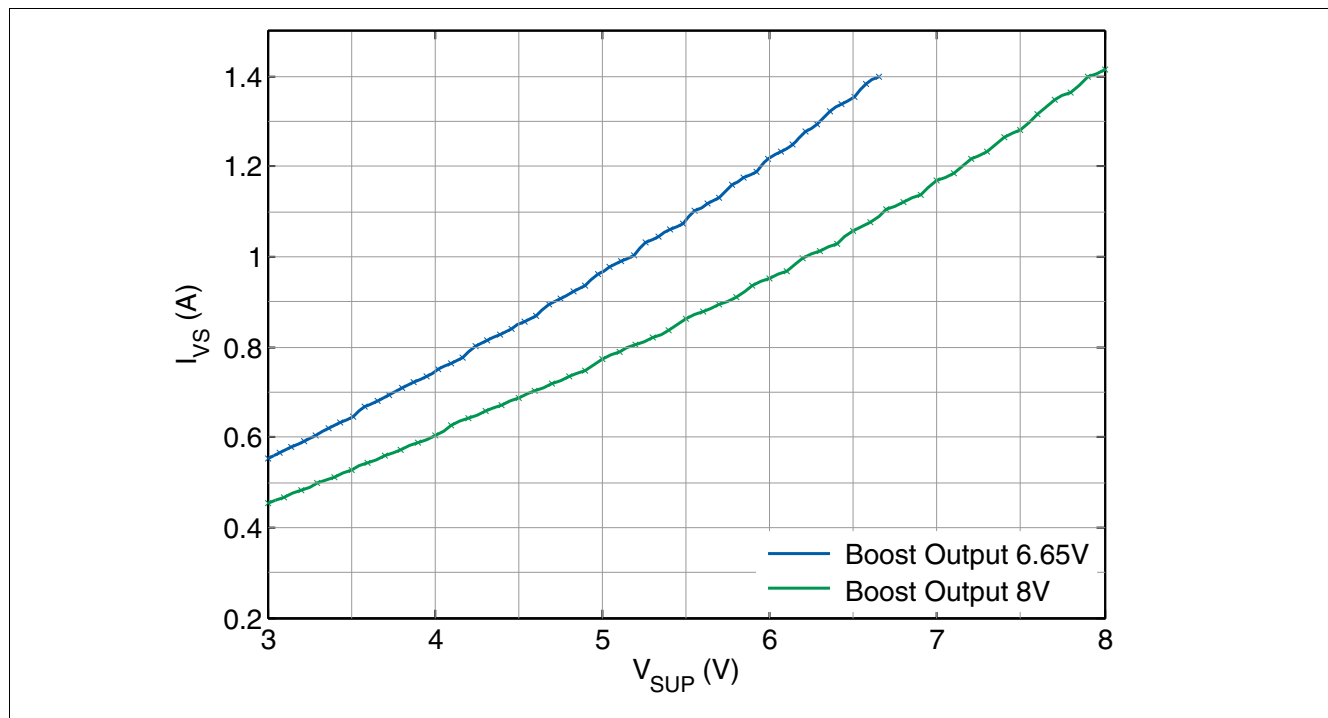

Figure 13 Maximum DCDC Boost current capability versus V_{SUP} (TLE9271..3QX version).
2) Values verified in characterization with Boost converter specified in Chapter 15.1. Not subject to production test; specified by design. Refer to Figure 13 for additional information.
Note: Figure 13 is based on simulation results (specified by design), with Boost converter external components specified in Chapter 15.1.